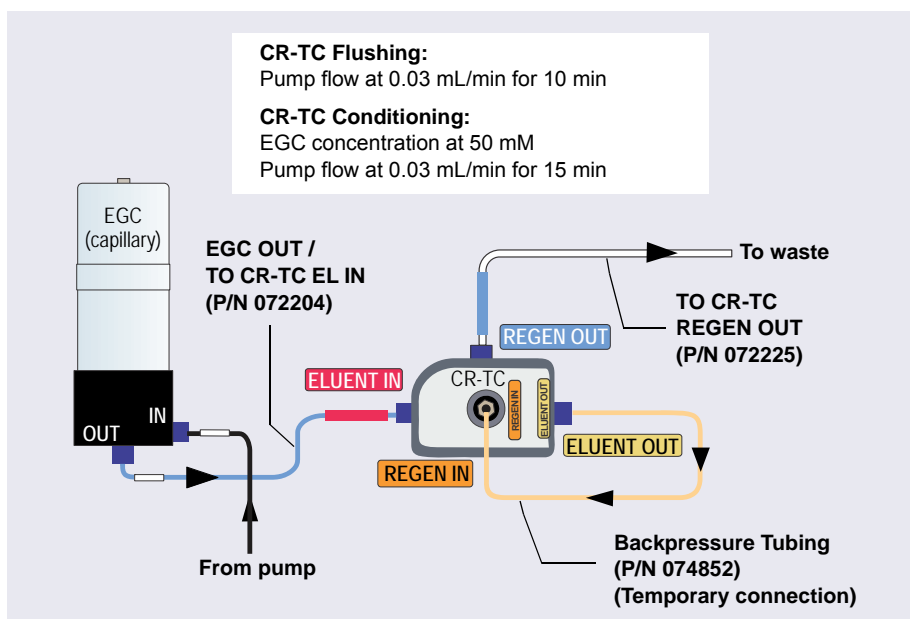

Figure 4-7. Flow Schematic for Flushing and Conditioning the Dionex CR-TC 600 (Capillary)
- Connect the plumbing for flushing the Dionex CR-TC 600 as shown in Figure 4-7. The same plumbing is also used for conditioning the Dionex CR-TC 600.